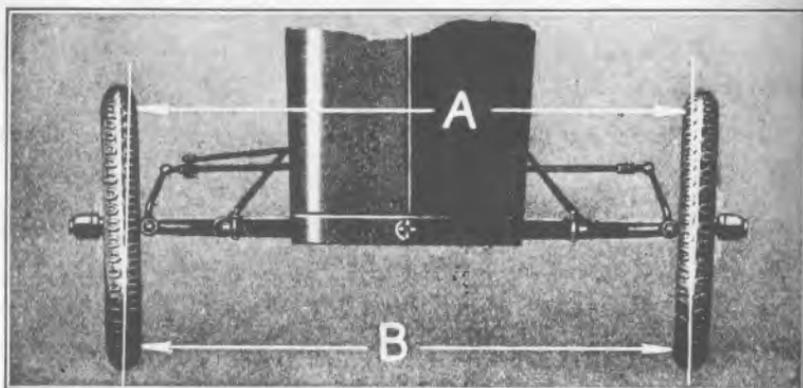

Fig. 120
- 151 The gather is checked by drawing a horizontal line from center of hub to the front and rear of the wheel felloe on both front wheels (See "A" and "B" Fig. 120), and measuring the distance between the wheel felloes at these points. There should be a difference of  $\frac{3}{16}$ " to  $\frac{1}{4}$ " between the two measurements. If the gather is greater or less than these limits it can be adjusted by running off the spindle connecting rod yoke ball nut (See "A" Fig. 121) and withdrawing ball from yoke. Run off spindle connecting rod bolt nut "B" and spindle connecting rod bolt "C". The spindle connecting rod yoke "D" is then turned until the correct adjustment is obtained. The connecting rod bolt is then replaced and the nut run down and cottered. The yoke ball is inserted through yoke and nut run down and cottered.